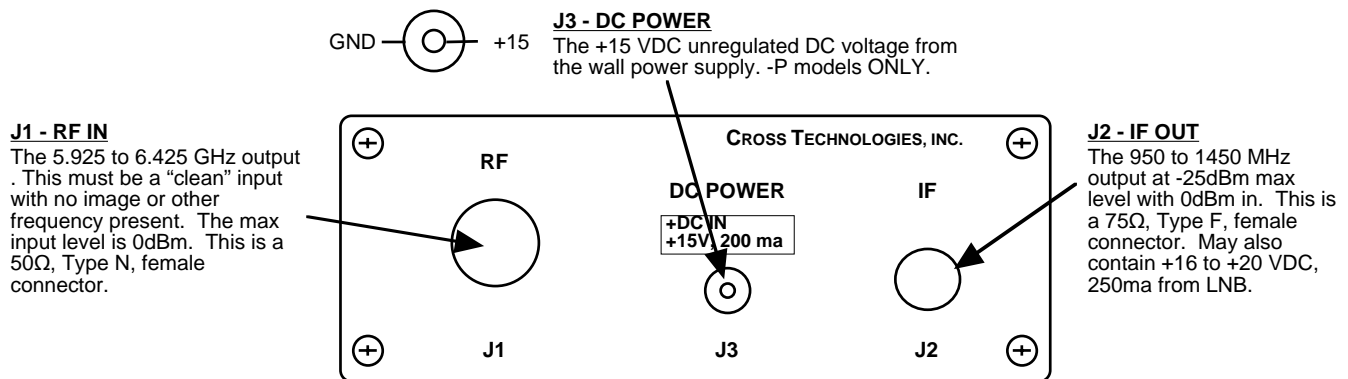

FIGURE 2.3 Model 2009-59 Rear Panel Inputs and Outputs
Figure 2.3 shows the input and output signals to the 2009-59.
1. For **-P** models, connect one end of the Wall Power Supply to the 2009-59 DC Power In, J3, and the other end to 115 VAC, 60 Hz (Figure 2.3).
2. Connect a +15 dBm, maximum, signal to RF IN, J1 (Figure 2.3).
3. Connect the IF OUT, J2, to the receiver under test (For models powered from the LNB be sure that the LNB voltage is +16 to +20 VDC, 280 ma) (Figure 2.3).